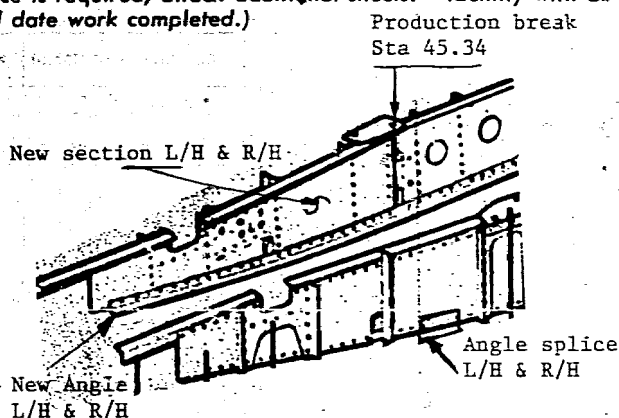

FIG. 2
3. 5310038-100 and -113 web L/H and R/H installed at break Sta 45.34 to fwd end. See Fig. 2.
4. New lower angle section spliced as shown AC43.13-1A See para 100E and subsequent and attached to 5310038-100 and -113 web in the original manner. See Fig. 2.